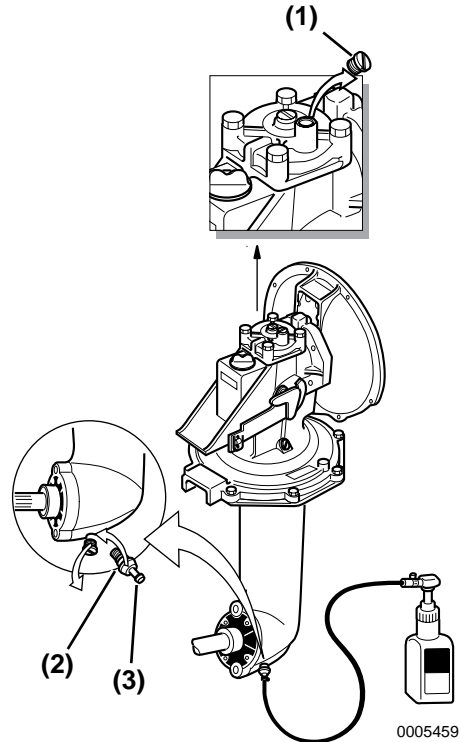

Figure 12
1. Use a MerCruiser® pump with like the one shown above (**Figure 12**), or use a similar pump available locally.